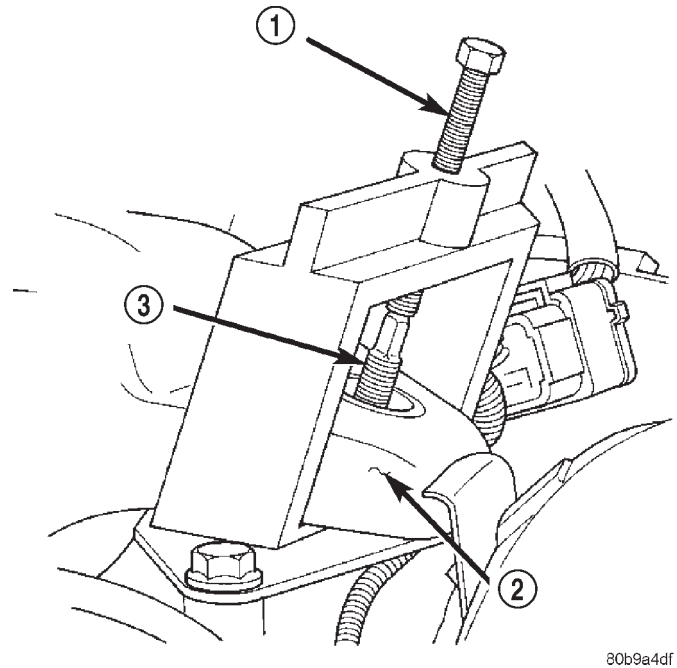

Fig. 12 Separate Ball Joint
- (4) Separate ball joint from the arm with Remover 8278 (Fig. 12).